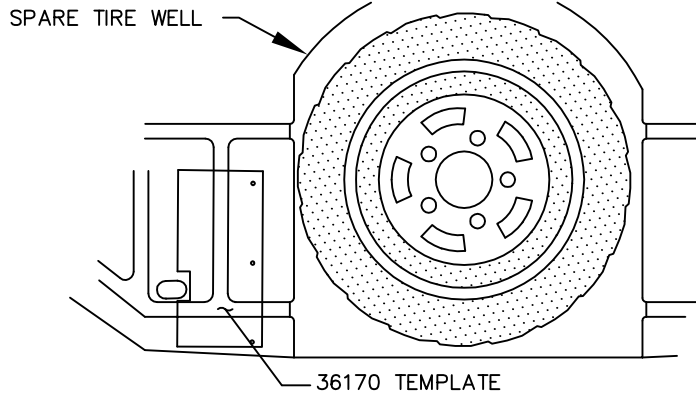

FIGURE 1. INSIDE TRUNK DRIVER'S SIDE
- * PLACE TEMPLATE INSIDE TRUNK ON DRIVER'S SIDE OF SPARE TIRE WELL, SEE FIG 1.
5. CENTER PUNCH THREE (3) PLACES AS SPECIFIED ON "36170 TEMPLATE." REMOVE TEMPLATE. DRILL THREE (3) 1/8" HOLES DOWN THROUGH TRUNK PAN AT CENTER PUNCHED LOCATIONS.